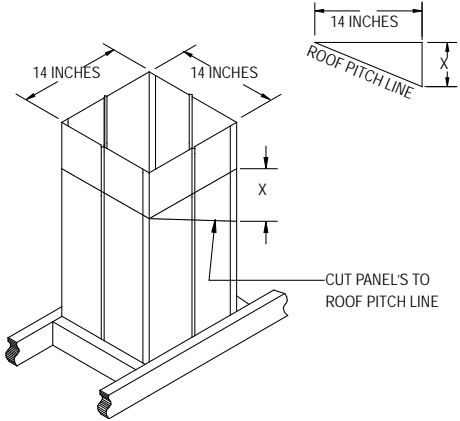

Figure 8
5. Cut Roof Opening: Cut an opening in the roof directly above the opening below, and at least 4 inches larger than the chimney's outside diameter to provide at least a 2-inch clearance all around the chimney. If the installation is located between rafters that are 16 inches on center, Close Clearance Shields (a sheet metal product fabricated by Simpson Dura-Vent), may be used to avoid structural reframing. (*Figure 8*). The 2-inch minimum clearance to combustibles is not required when the chimney passes through Close Clearance Shields. When using Close Clearance Shields, Ventilated Flashing must be installed. Refer to *Figure 10*, which pictures both Ventilated and Non-ventilated Flashing.